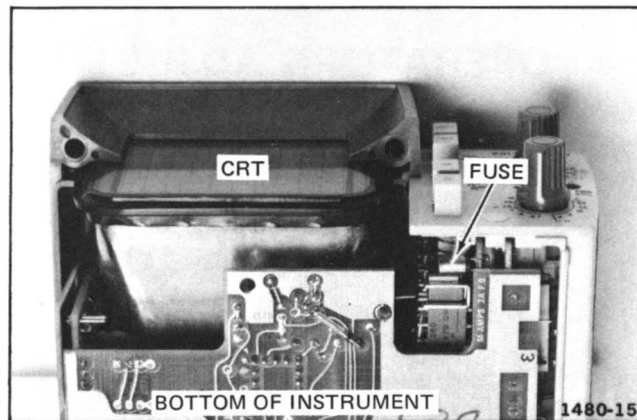

Fig. 9. mA input fuse location.
2. Unplug the mA protective fuse from its socket (see Fig. 9). Replace fuse and reassemble the bottom cabinet half in the reverse order of removal.